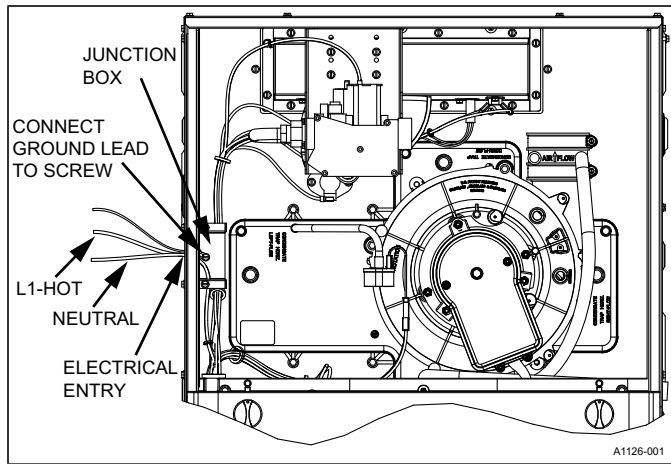

Figure 11: Electrical Wiring
2. Remove the wiring box cover screws. Route all power wiring through a conduit connector or other proper bushing that is field installed into the unit opening and the junction box. In the junction box there is a black wire, a white wire, and a green ground screw. Connect the power supply as shown on the unit's wiring label located on the inside of the blower compartment door, or the wiring schematic in this section. Connect the black wire to L1 (hot) from the power supply. Connect the white wire to neutral. Connect the ground wire (installer-supplied) to the green (equipment ground) screw. An alternate wiring method is to use a field-provided 2 in. (5.1 cm) x 4 in. (10.2 cm) box and cover on the outside of the furnace. Route the furnace leads into the box using a protective bushing where the wires pass through the furnace panel. After making the wiring connections, replace the wiring box cover and screws. Figure 11.
3. The furnace's control system requires correct polarity of the power supply and a proper ground connection. See Figure 11.